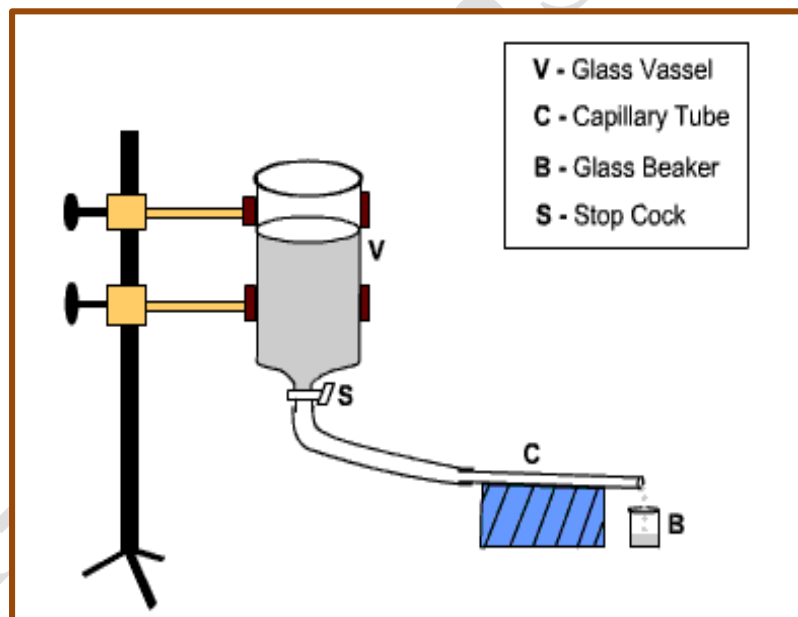

Figure 1: The flow rate devices
- 1-Connect the rubber tube to a tap water and see the surplus water discharges into the sink as shown in Figure 1.